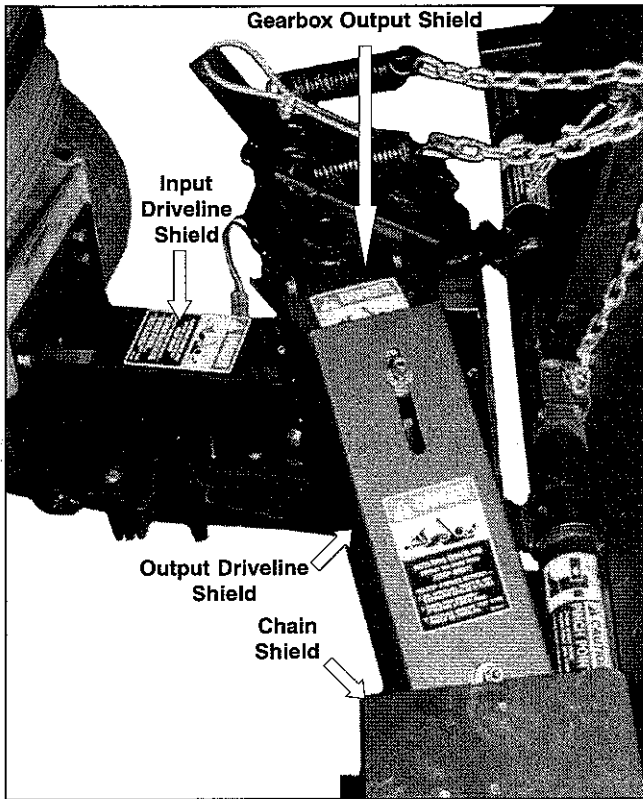

figure 2
6. Units with input drive shield – Place the input drive shield (figure 2) over the input driveline. Attach angle brackets to the input driveline shield. To make installation easier, put the washer, lock washer and nut toward the outside of the shield.
2. Fasten the brush head assembly to the drive assembly using 2, 1/2-13 x 1 1/2 in. carriage bolts, flat washers, lock washers and nuts. Be sure to position the hardware as high as possible in the slots (figure 2).
4. Units with rectangular drive shaft – Install the output driveline shield (figure 2).
- a. Place a washer and plastic bushing on the bolt welded to the output driveline shield. Place a washer and plastic bushing on the bolt welded to the gearbox output shield (figure 2).